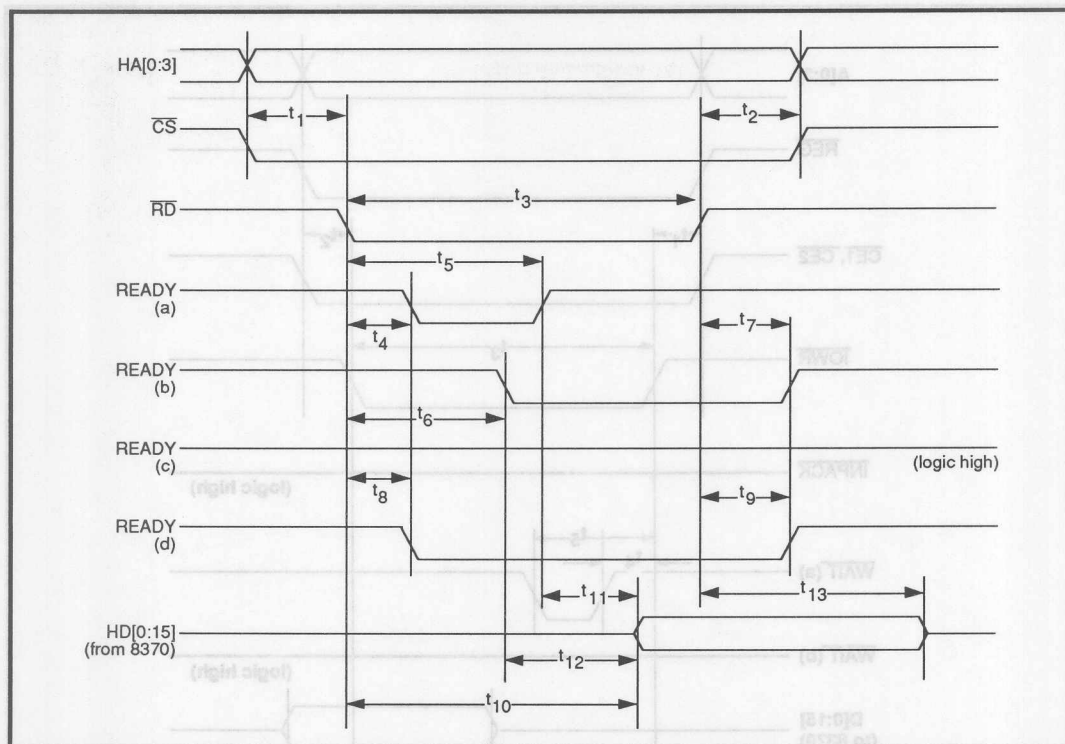
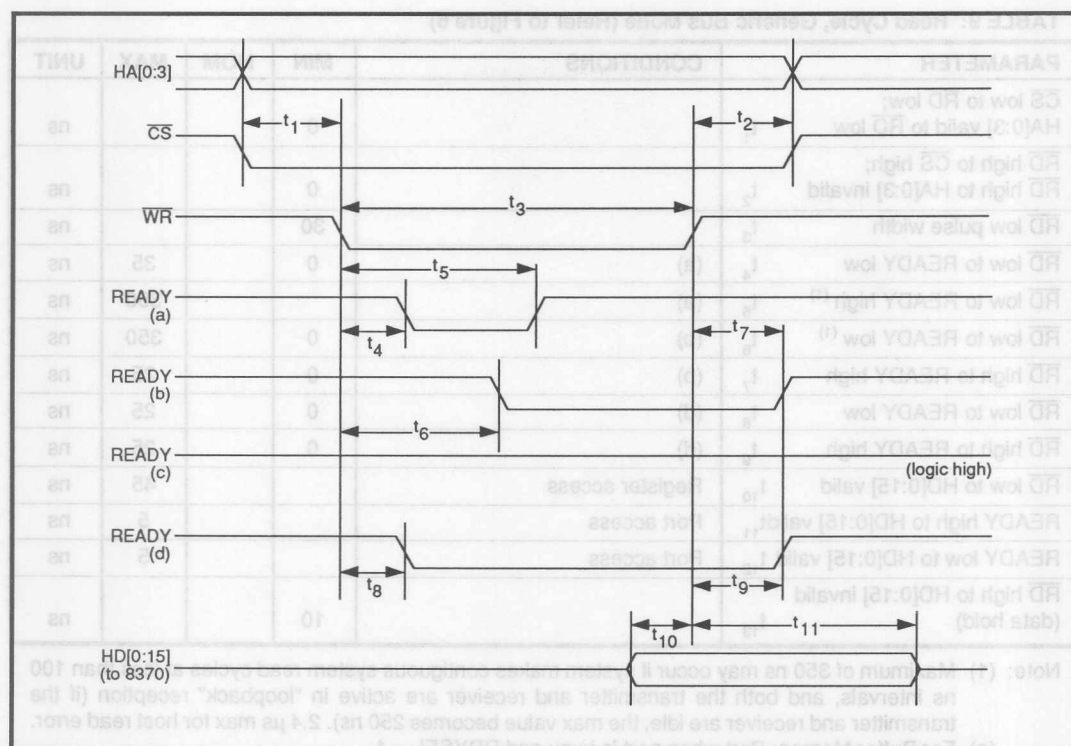

FIGURE 6: Read Cycle, Generic Bus Mode (Refer to Table 5)
FIGURE 7: Write Cycle, Generic Bus Mode (Refer to Table 10)
TABLE 9: Read Cycle, Generic Bus Mode (Refer to Figure 6)
TABLE 10: Write Cycle, Generic Bus Mode (Refer to Figure 7)
- Note: (1) An asserted EOP terminates any further DMREQ after DMACK returns high.
(2) The DMA cycle uses DMACK as the chip select. DMACK overrides CS and HA[0:3] if they are both asserted at the same time, forcing selection of the Buffer Memory Port as in a DMA cycle.
(3) For READY timing and HD[0:15] timing, see Figure 6, t_4 - t_{13} , and Figure 7, t_4 - t_{11} .
- Note: (1) DMREQ goes low during the next-to-last transfer of the burst. DMACK should not go high until after the \overline{RD} or \overline{WR} pulse of the last transfer cycle goes high
- (2) The DMA cycle uses DMACK as the chip select. DMACK overrides \overline{CS} and HA[0:3] if they are both asserted at the same time, forcing selection of the Buffer Memory Port as in a DMA cycle.
- (3) For READY timing and HD[0:15] timing, see Figure 6, t_4 - t_{13} , and Figure 7, t_4 - t_{11} .